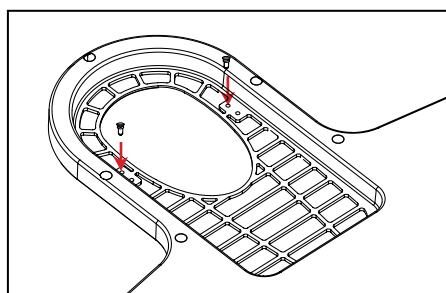

Fig. 2
2. From the bottom of the CURVE Insert, screw pins clockwise into alternate location with a flat head screwdriver (Fig. 2).